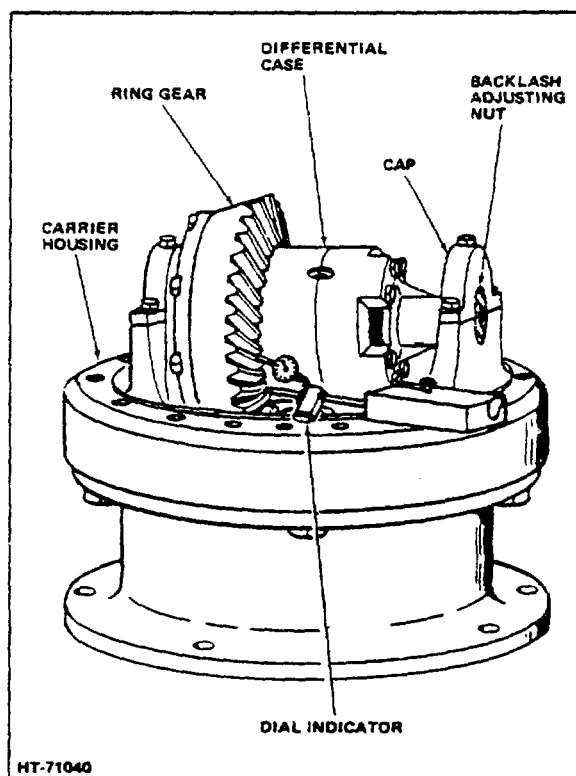

Figure 5-7. Checking Backlash
1. Install a dial indicator (Fig 5-7) to the carrier housing.